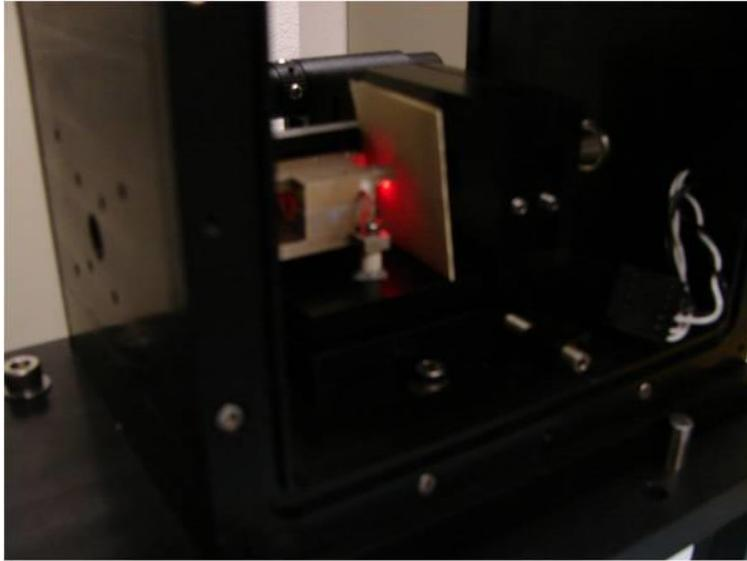
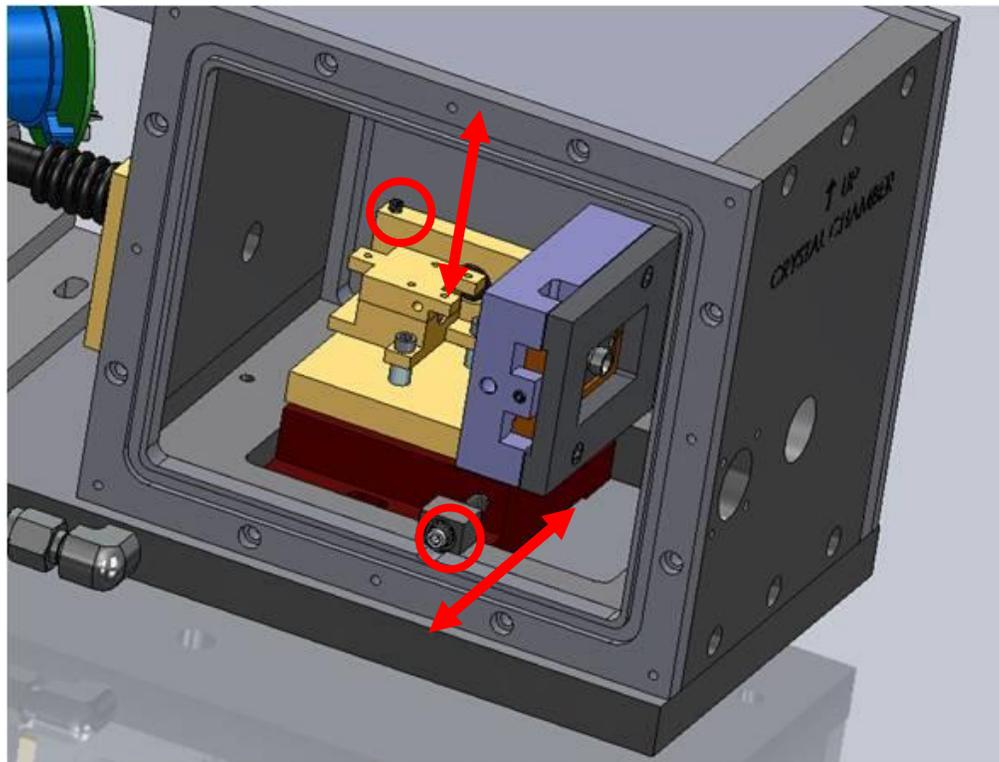

Figure 28: Paper between Crystal and Mode Match Optics
Figure 29: Adjusters that aim the YAG Crystal Assembly (thermal management assembly removed for clarity)
- 4.44. Put a small section of paper (Figure 28) between the YAG crystal holder and the mode match optics to avoid reflections from the mode match optics confusing the alignment procedure. Figure 29 details the YAG crystal assembly for the SP2 and the adjustment and locking screws. The adjustments provide for rotation and tip of the YAG crystal to align it on the optical axis. The rotation of the assembly is done via the 100 TPI screw on the laser frame. The tip is driven by an 80 TPI screw on the top of the assembly itself.